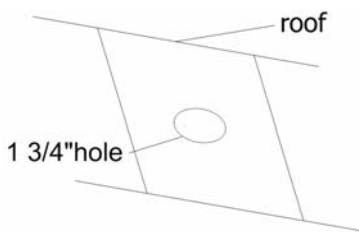

Fig. 1
1. Use the existing hole on the roof or open a 1 3/4" hole. See fig. 1.